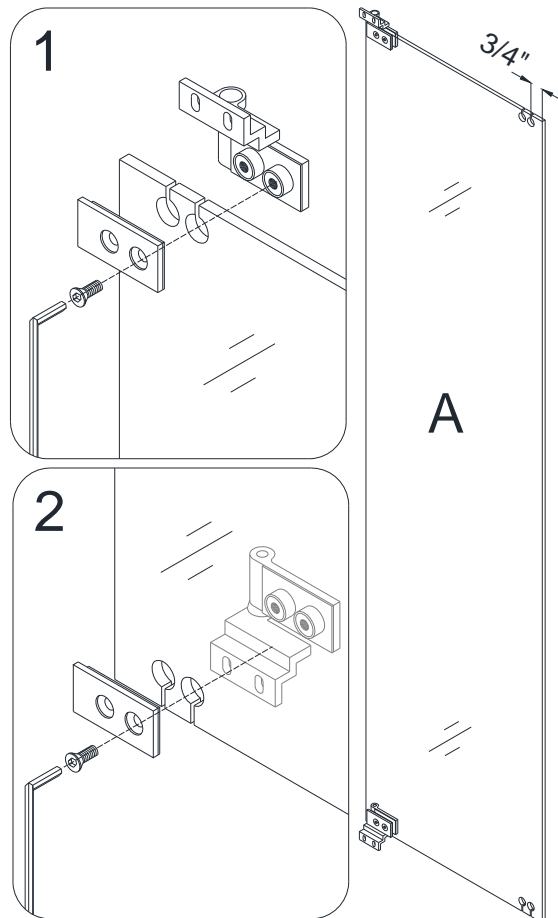
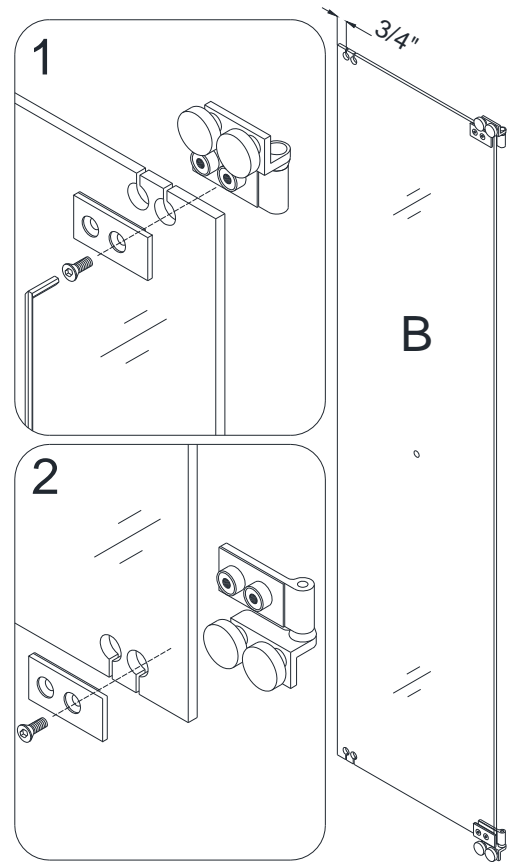
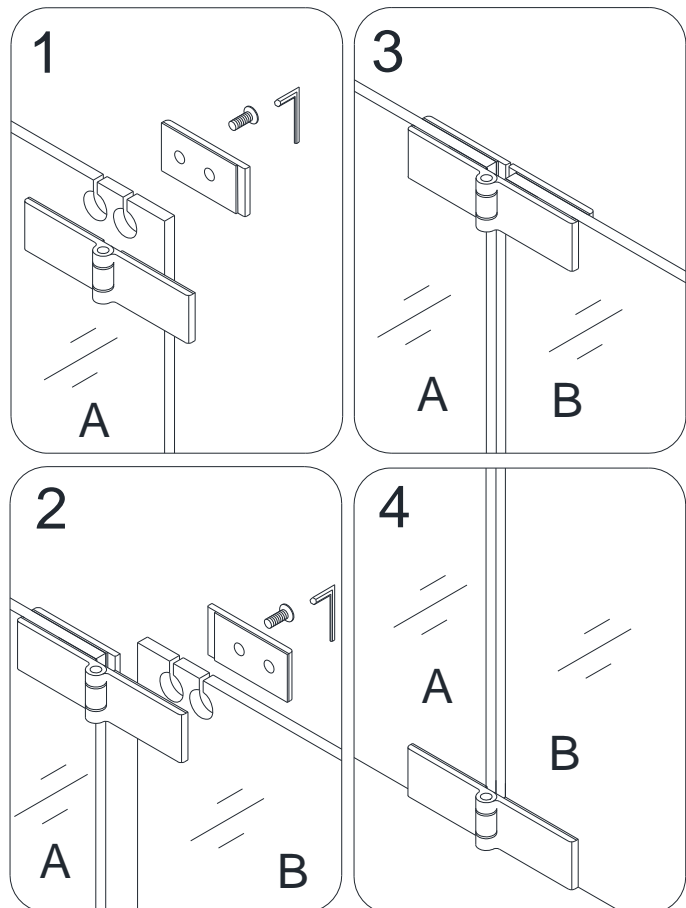
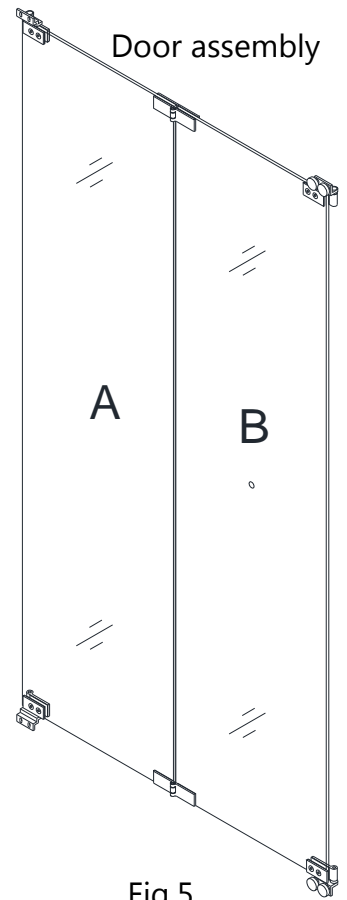

Fig.2
Fig.3
Fig. 4
Fig.5
See Fig. 2 and Fig. 5 for details.
See Fig. 3 and Fig. 5 for details.
See Fig. 4 and Fig. 5 for details.
6. Slide the pre-installed **Door assembly** (as showing in Fig. 5) into the channel of the **Guide rails (03)** from the right side.